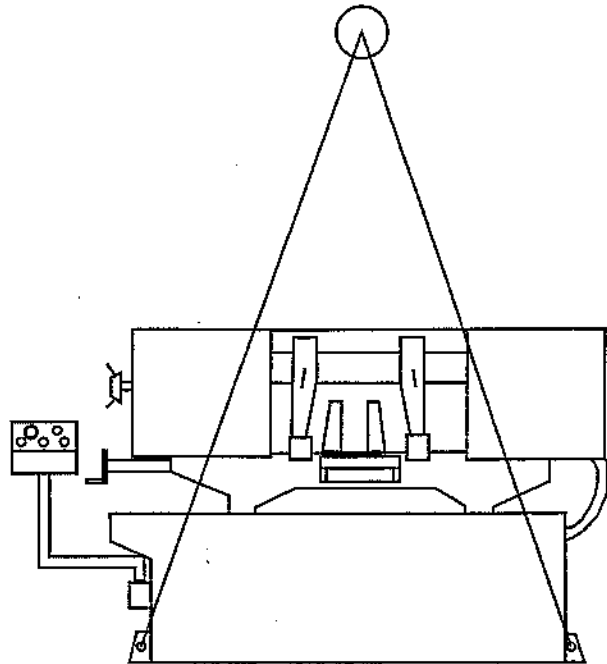

Fig. 1
1. Using lifting straps that are isolated from the bandsaw's finished surfaces, lift machine and place in desired location. See Figure 1, for strap placement.